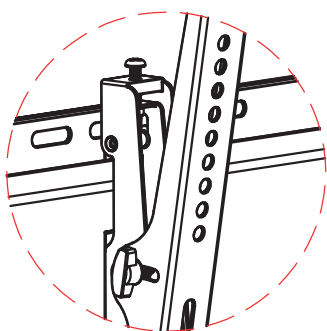

Fig 4a
1. Lift the Television display with the brackets attached and carefully hang the top hook of the **Brackets (2)** over the top bar of the **Wall Plate (1)** as shown in (Fig. 4a). Carefully lower the display down.